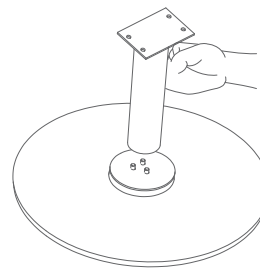

Fig. 5
STEP 5: Place the top plate ottoman (H) on top of the disk base ottoman. Position the center stem (G) on top as shown in fig. 5.